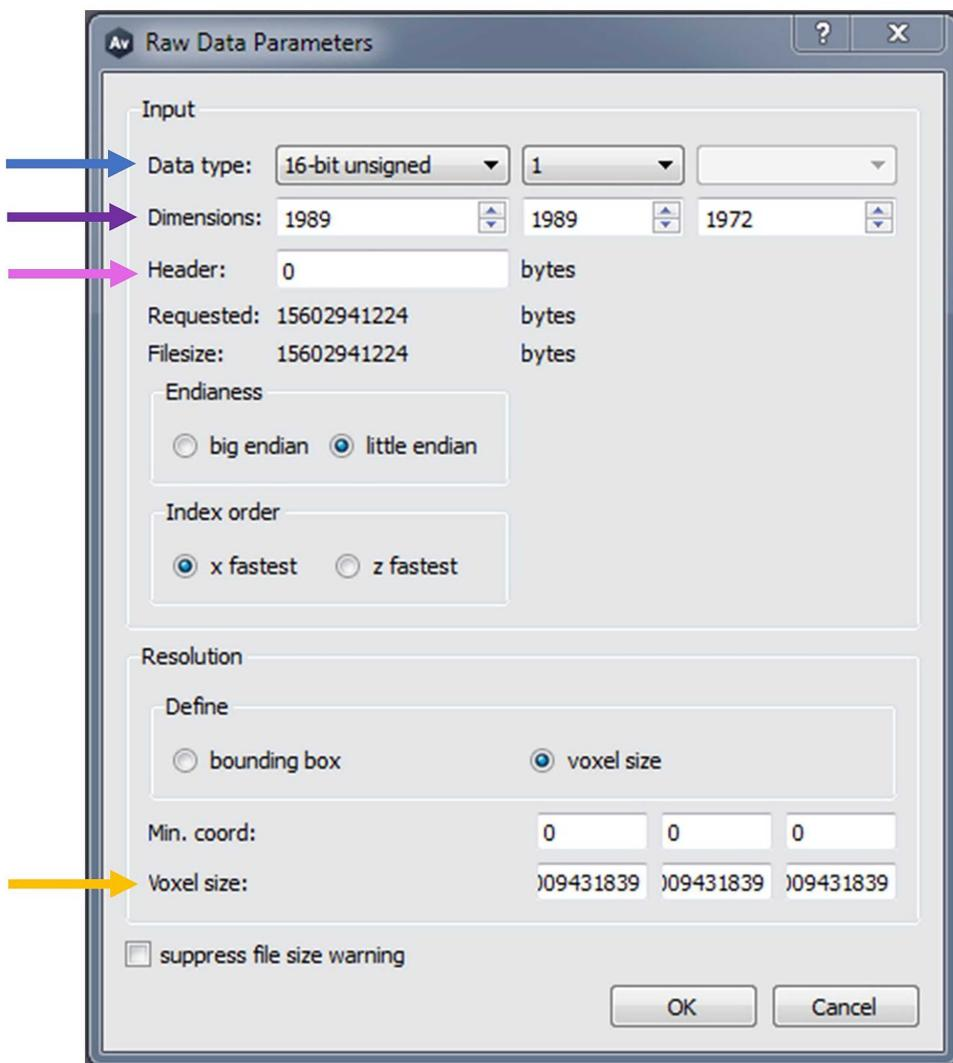

Fig. 8: 'Raw Data Parameters' window.
20.4 Indicate raw data parameters in 'Raw Data Parameters' window (Fig. 8).
20.5 Set 'Data type' according to scanner settings (usually '16-bit unsigned') (blue arrow in Fig. 8), leave the rest as the pre-set values.
- 20.7** To enter the x-, y-, and z-dimensions in the ‘Raw Data parameters’ window (violet arrow in Fig. 8) search for ‘ROI_SizeX=NUMBER’, ‘ROI_SizeY=NUMBER’ and ‘ROI_SizeZ=NUMBER’ respectively (violet arrow in Fig. 9).
Caution: ‘Header’ value (pink arrow in Fig. 8) in ‘Raw Data Parameters’ window will change to 0 if all dimensions are entered correctly.
- 20.8** To enter the voxel size value into ‘Raw Data parameters’ window (yellow arrow in Fig. 8), search for ‘VoxelSizeRec=NUMBER’ (yellow arrow in Fig. 9).